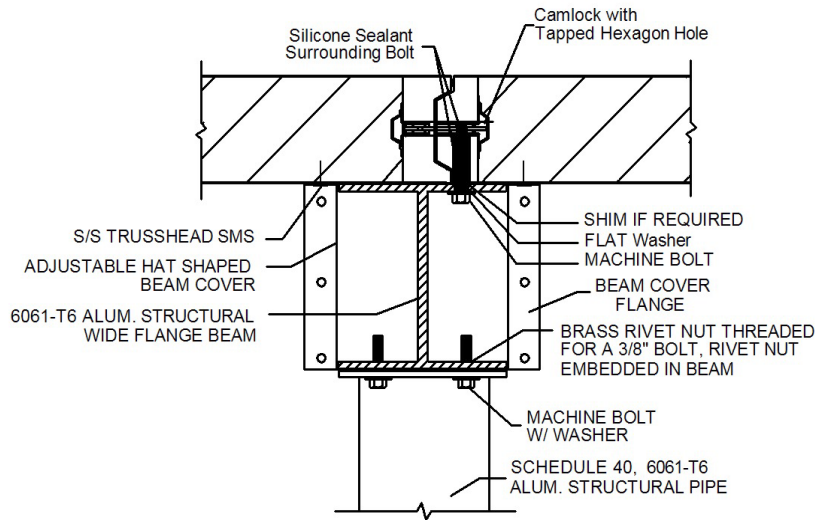

FIGURE 14 - INTERIOR BEAM & EXPOSED POST
3. Install the beam covers referencing Figures 14 and 15. All workmanship must meet the requirements of NSF Standard 7.